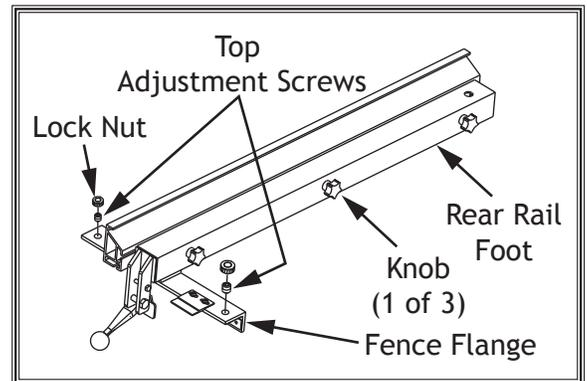

Figure 115. Fence components used to adjust fence height and squareness to table.
4. Install fence onto table, then loosen fence knobs (see **Figure 115**), pull fence up from center, and tighten each knob.
5. Loosen top lock nuts on fence flange and lock nut on rear rail foot, shown in **Figure 115**.
8. Loosen top lock nuts and adjust top screws (see **Figure 115**) to make fence face 90° to table, then tighten lock nuts.